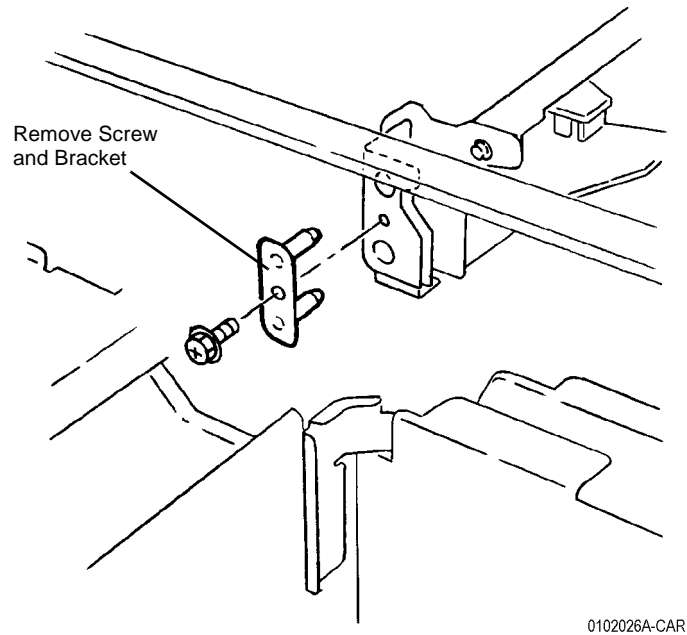

Figure 1 Removing Stud Bracket
3. Remove the Stud Bracket (Figure 1).